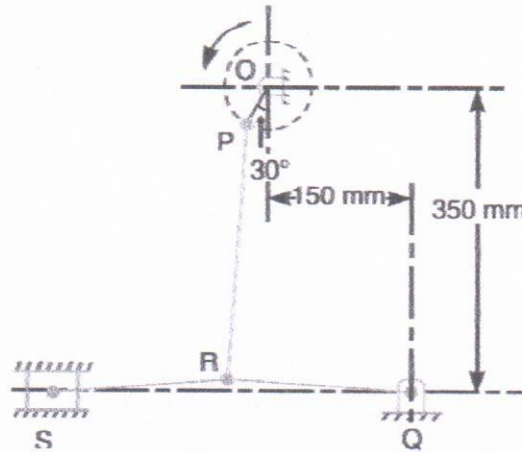

Fig.4
- (a) A toggle press mechanism, as shown in Fig.4, has the dimensions of various links as follows :  $OP = 50 \text{ mm}$  ;  $RQ = RS = 200 \text{ mm}$  ;  $PR = 300 \text{ mm}$ . Find the velocity of  $S$  when the crank  $OP$  rotates at 60 r.p.m. in the anticlockwise direction. If the torque on  $P$  is 115 N-m, what pressure will be exerted at  $S$  when the overall efficiency is 60 percent.